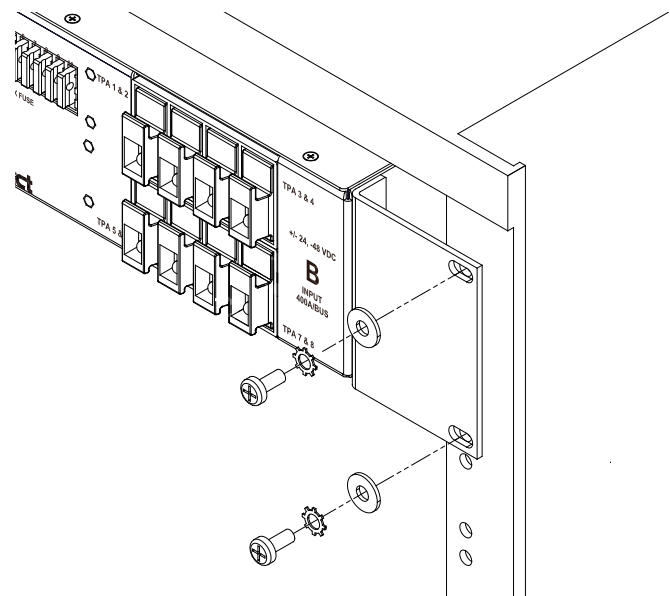

Figure 3 - Rack Mounting
- Figure 3 - Rack Mounting 4
2. Locate an unused rack position and mount panel using the four sets of screws and washers provided, as shown in Figure 3. (It’s best to mount the panel as high as possible on the rack.)